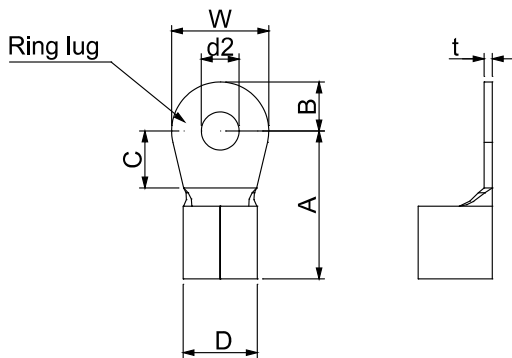

Figure 1.
- Use the specified ring lug for main circuit terminal wiring. See Figure 1. for ring lug specifications. For other types of wiring, use the wires that comply with the local regulations.